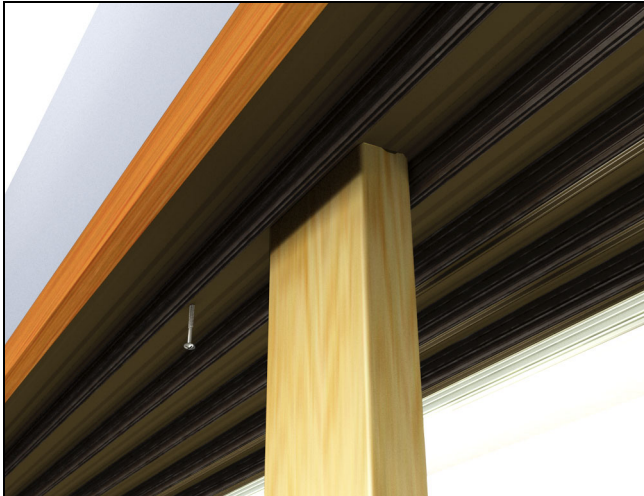

Figure 70
5. If necessary, shim head jamb so that the story pole stays in light contact with the sill and head jamb frame. Fasten with #8 x 3" black installation screws. See figure 70.